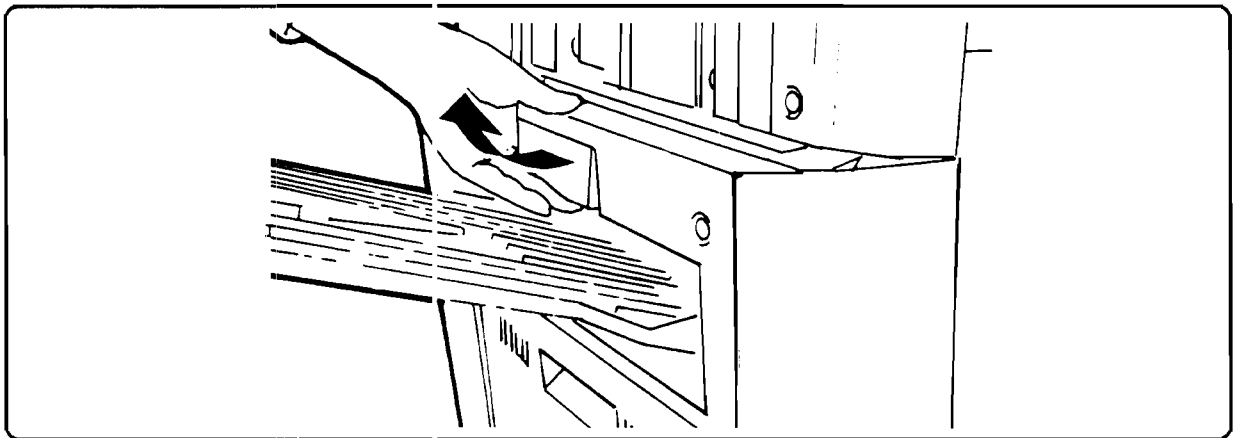

Figure 12. Opening the Print Delivery Assembly
1. Pull outward on the hand grip of the print delivery assembly door to open (Figure 12). Notice that the inner mechanism providing access to the fusing roller area also opens automatically. The separation claws are now visible.